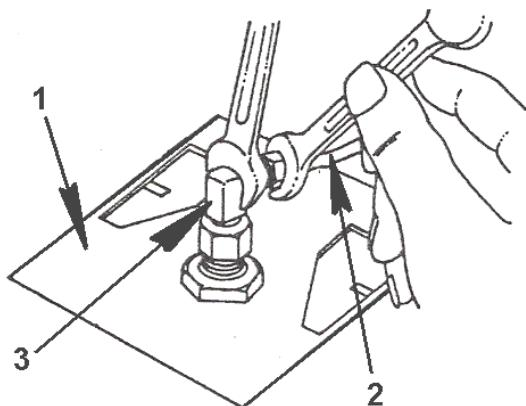

Figure 148 Oil Line Removal
- k. Disconnect the fitting on the back of the oil pressure gauge (Fig. 148, Item 3). The oil